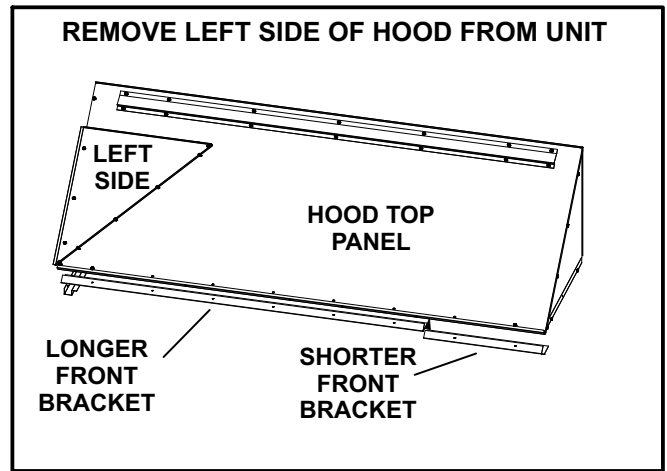

FIGURE 15
- 8- Install longer front filter bracket on hood top as shown in figures 15 and 16. Insert four filters.